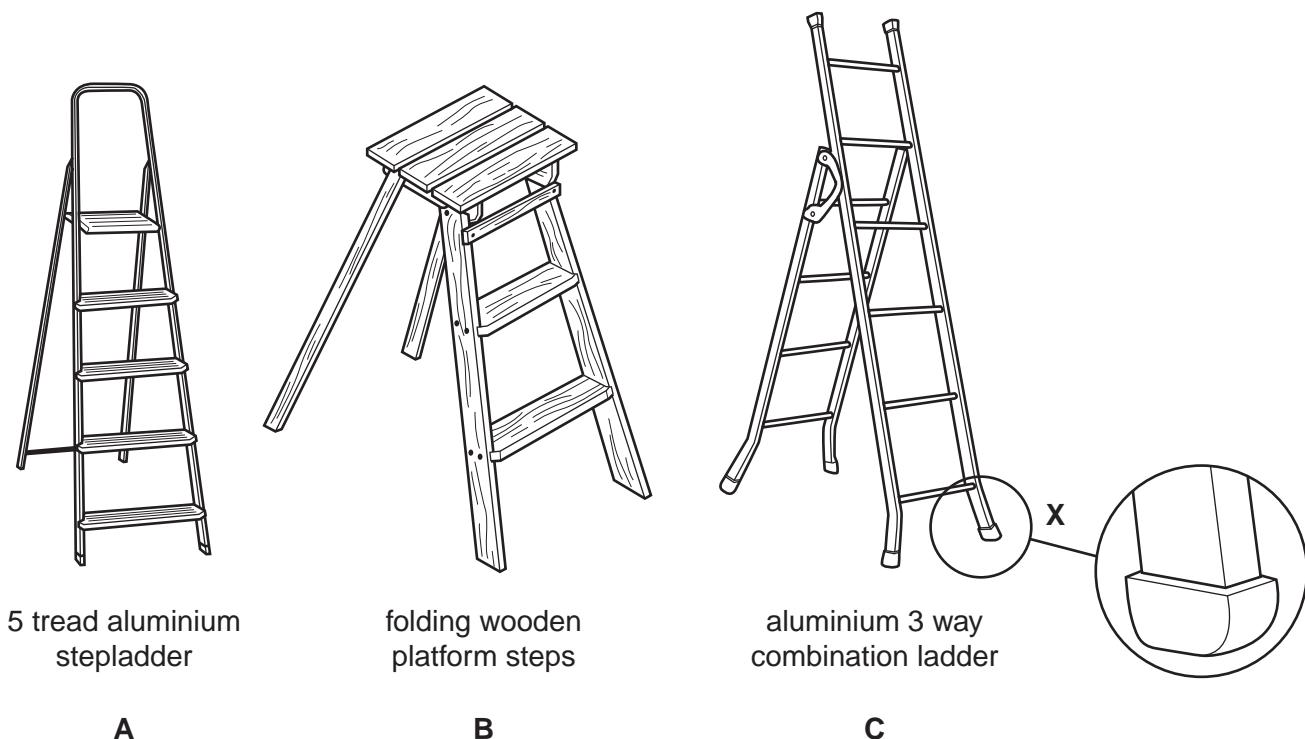

Fig. 7
- 6 Fig. 7 shows a range of step ladder designs.